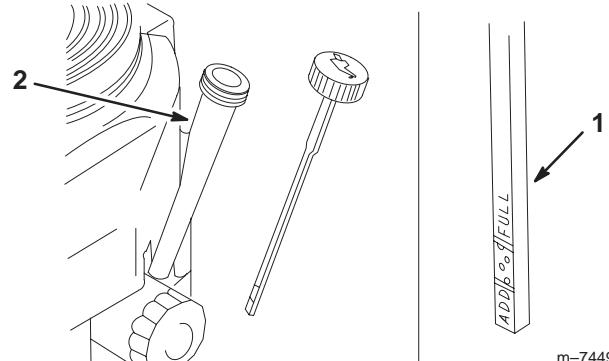

Figure 29
- Clean around the oil dipstick (Fig. 29) so that dirt cannot fall into the filler hole and damage the engine.
- Unscrew the oil dipstick and wipe the end clean (Fig. 29).
- Slide the oil dipstick fully into the filler tube, **but do not thread onto tube** (Fig. 29).
9. Slowly pour approximately 80% of the specified oil (refer to Service Interval/Specification, page 29) into the filler cap (Fig. 29).